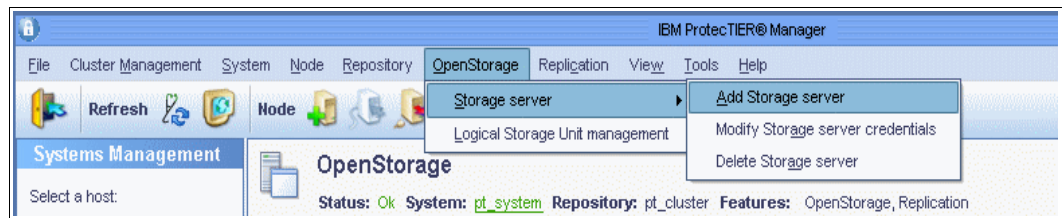

Figure 9-5 Add Storage Server
2. From the OpenStorage menu, select **Storage server** → **Add Storage server**. The STS configuration window opens (Figure 9-5).